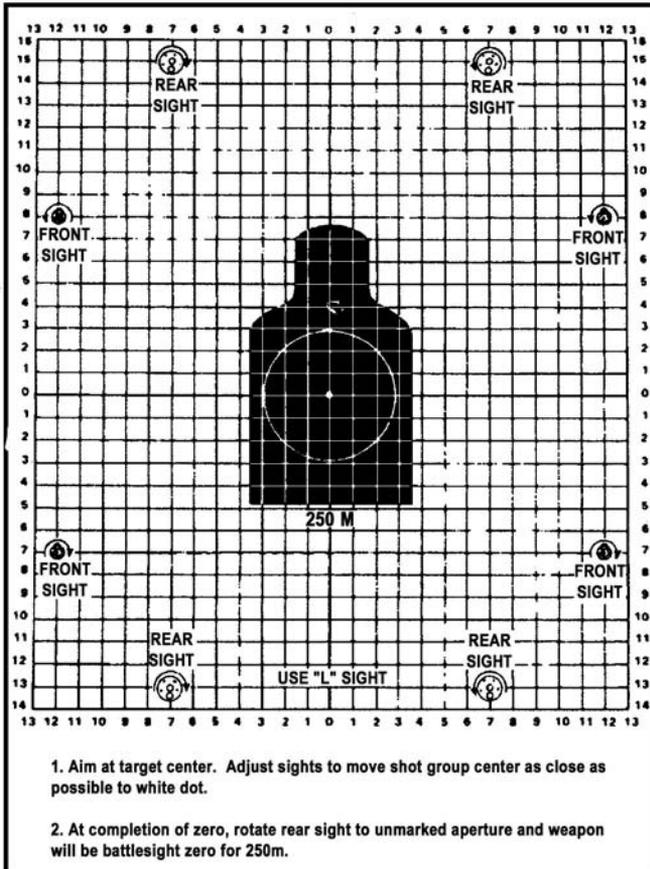

Figure 071-311-2004-4. Standard zero target
- (4) Verify the sight picture.
- b. Align the aiming point (figure 071-311-2004-4).